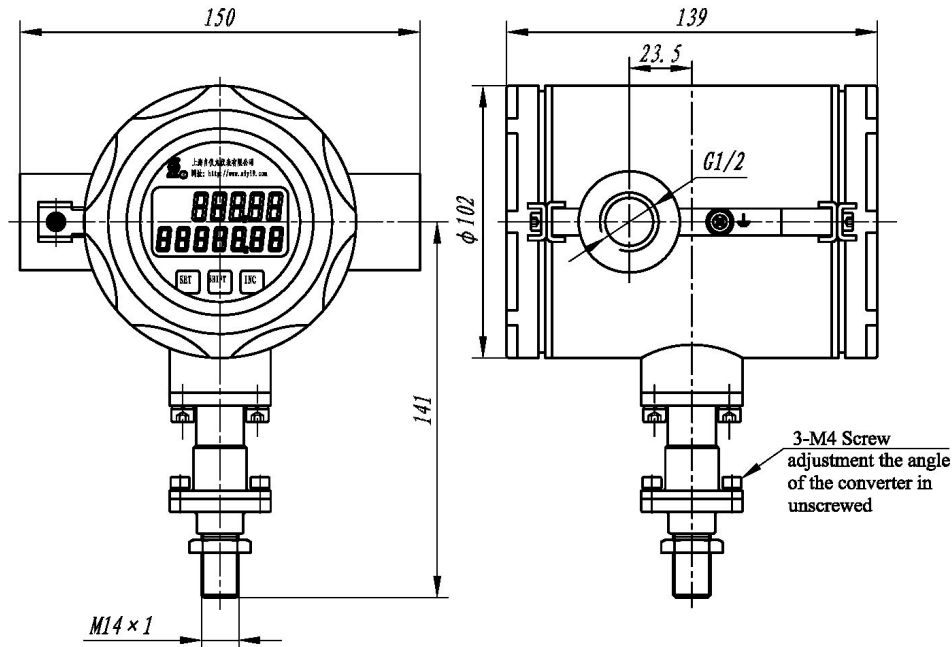

Figure 1 Dimensions of outline and Installation
- 12) Overall dimensions: see Figure 1